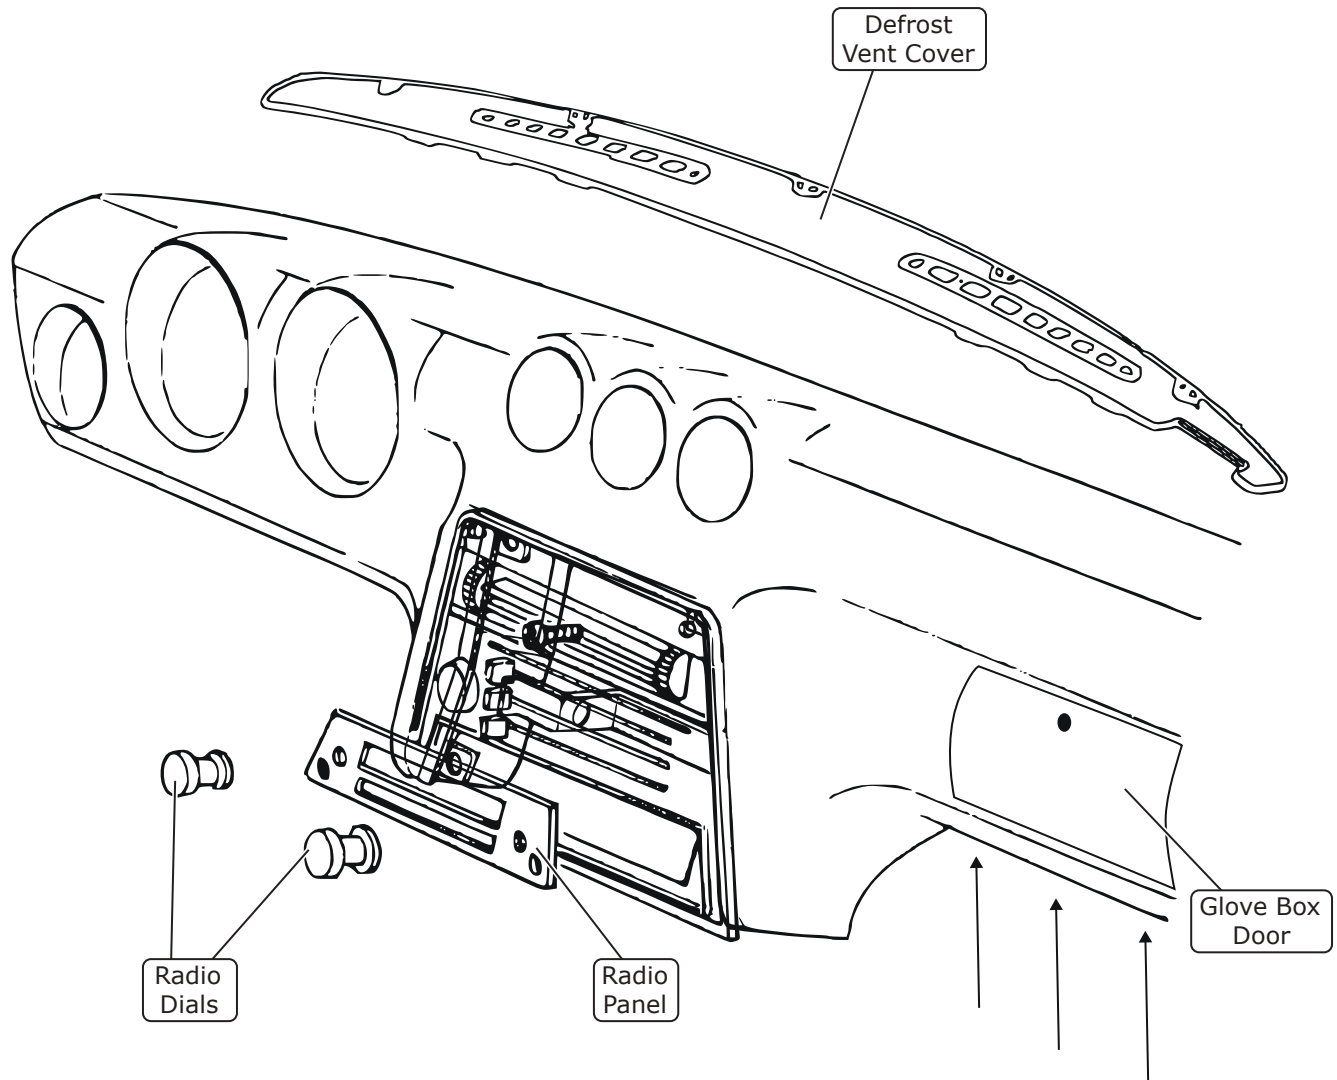

Figure 1
1. Remove (3) screws securing the blower assembly to inside firewall (See Figure 1, below.)